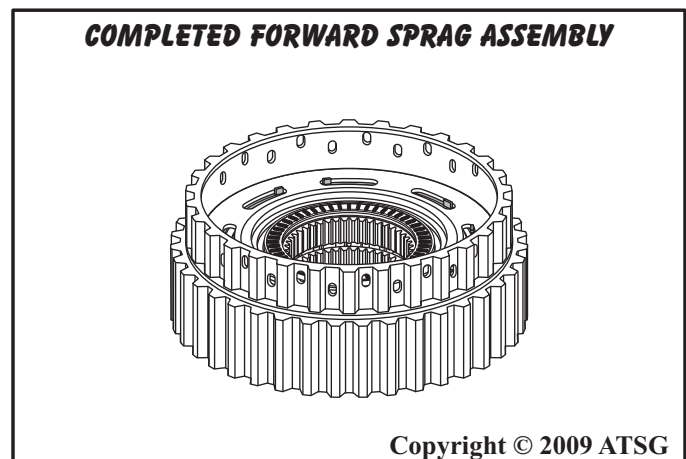

Figure 163
15. Set completed forward sprag assembly aside for the final assembly process (See Figure 163).